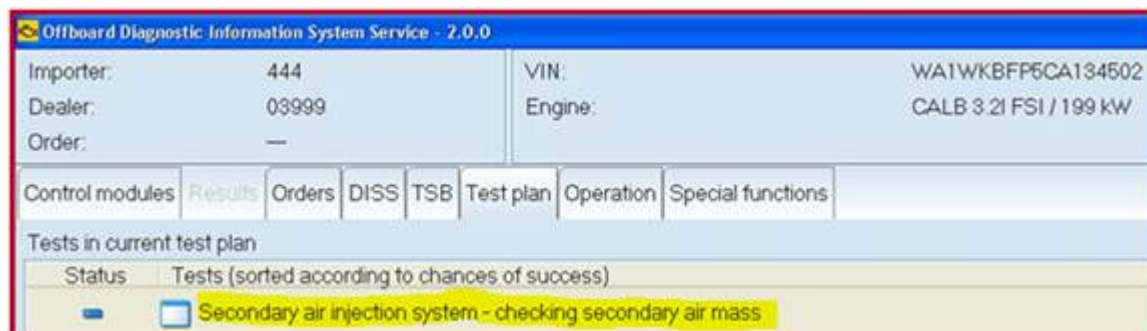

Figure 1. Message on ODIS tester.
- During reset of the service reminder, the following message appears on the ODIS tester: "Secondary air injection system - checking secondary air mass" (Figure 1).